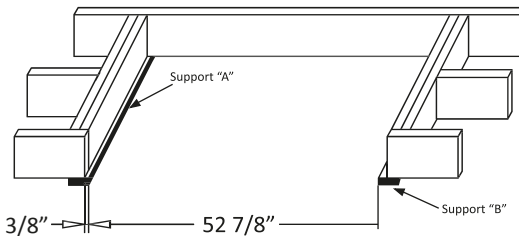

FIGURE 5: View from above
First locate support “A” at the end where the door hinge of the ladder will go. The edge of support “A” should extend into the rough opening 3/8” as shown in figure 5. Make sure both screws penetrate header above ceiling.
B. Measuring from the inside edge of support “A”, locate and secure the inside edge of support “B” 52 7/8” from inside edge of support “A” (Figure 5). Make sure both screws penetrate header above ceiling.